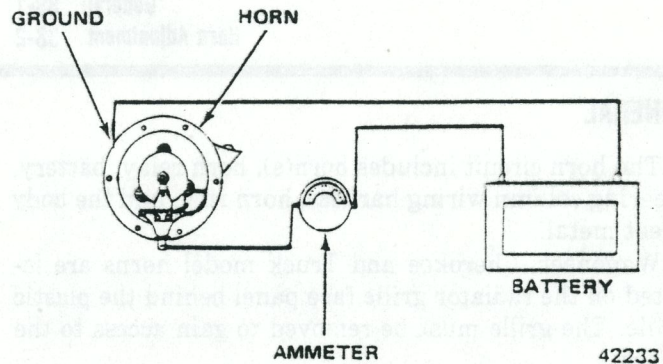

Fig. 3S-2 Connection for Horn Adjustment
- (1) Check for normal battery voltage (about 12.6 volts).
- (2) Connect ammeter in series between horn and battery and read current as shown in figure 3S-2.
- (3) Adjust current to 4.5 amps.